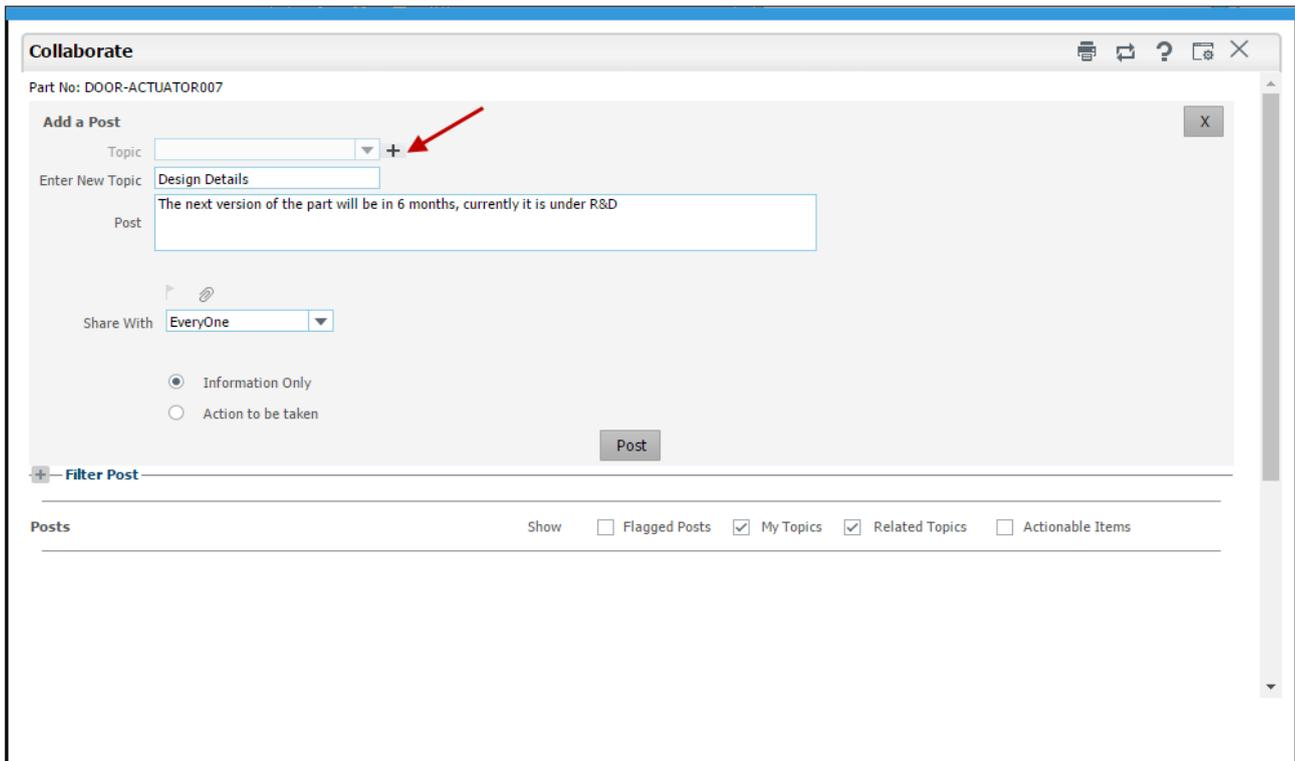

Figure 2.6 Adding a new topic
2. The **Add a Post** section appears. *See Figure 2.6.*